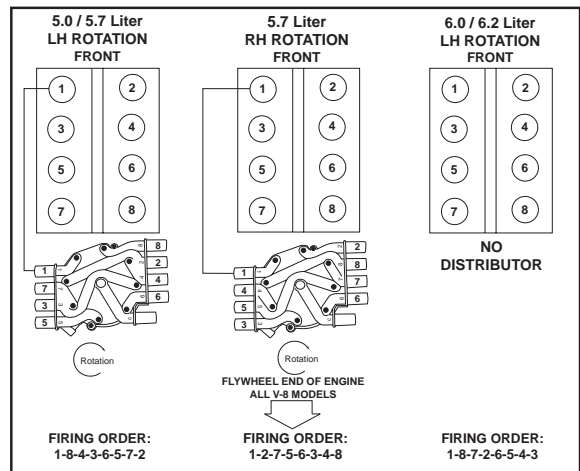

Figure 3-1 PCM Drivability Checklist
Step 1 specifies a number of preliminary actions you must perform before the actual test. As part of Step 1, the OBD System Check incorporates three steps we discussed as part of the PCM Drivability Checklist (Figure 3-1). These include:
Item 3 requires you to complete the checks and inspections previously discussed as part of Step 6 of the PCM Drivability Checklist. Refer to Figure 3-1, the PCM Drivability Checklist, Step 6A and Figure 3-3, Drivability Checklist - No Codes Troubleshooting Tree.